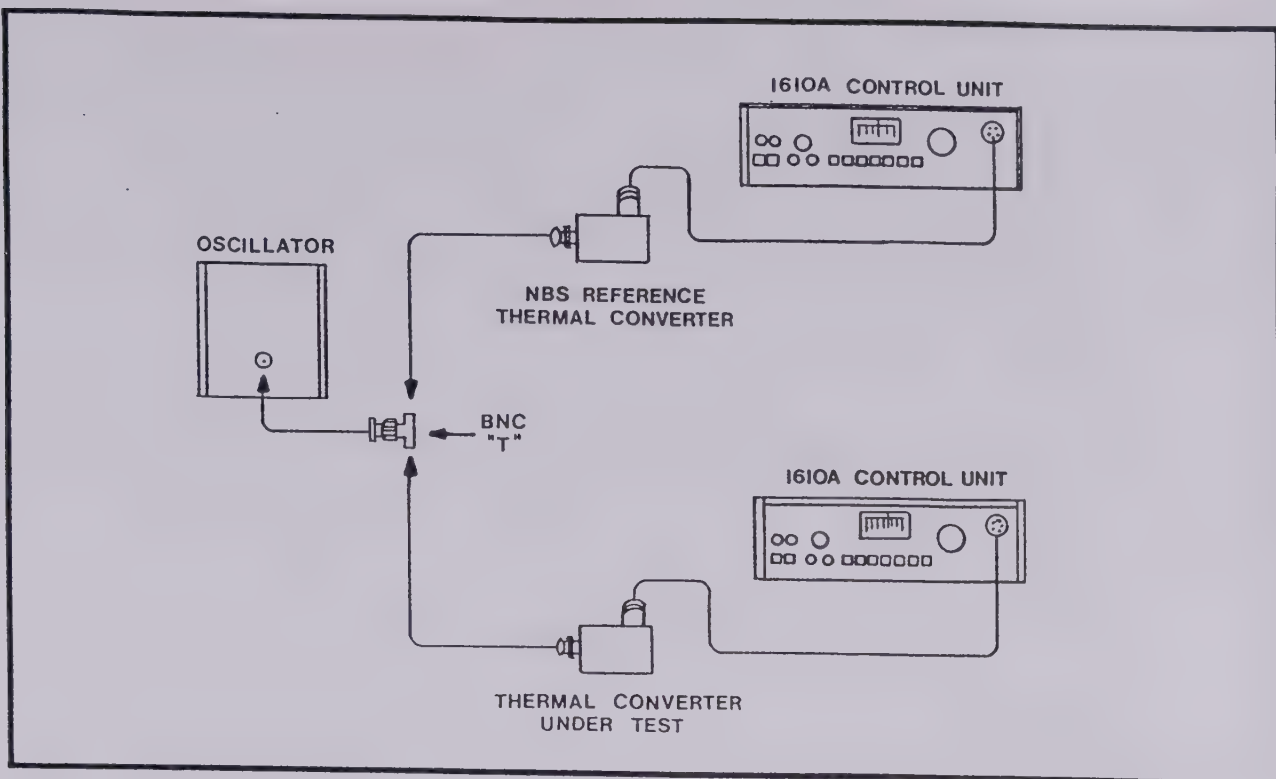

Figure 4-1. Thermal Converter Calibration Test Set-Up
The test setup for calibrating ac-dc difference of a thermal converter to an NIST calibrated reference thermal converter is shown in figure 4-1. With this setup, the thermal converter can be calibrated to within $\pm 0.05\%$ of the reference. The steps that follow describe the calibration procedure.
b. Connect the test equipment as shown in figure 4-1. Keep connecting cables to thermal converters as short as possible. Operate in a low noise or shielded environment. Consider the use of battery operated instrumentation to avoid ground loop error and power line disturbances.
Connect the test set up of figure 4-1. Connect the 1395 UUT and 1395 reference of the same voltage rating directly to a BNC tee as shown in figure 4-1.